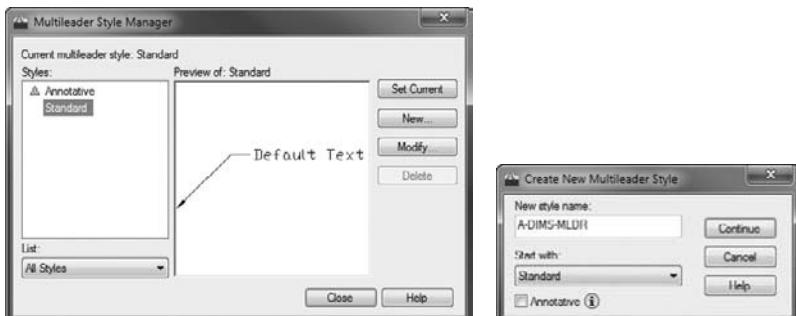

FIGURE 12.43 Creating a new multileader style
3. Click the New button in the Multileader Style Manager. In the Create New Multileader Style dialog box that opens, enter A-DIMS-MLDR in the New Style Name text box and then click Continue (see Figure 12.43).